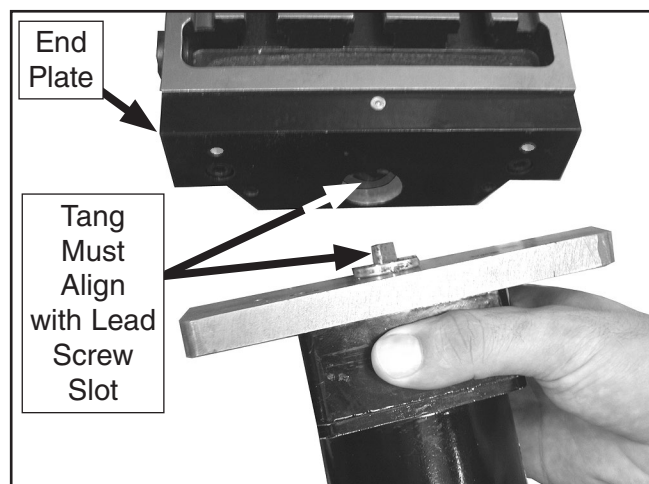

Figure 14. Motor installation.
19. Rotate the power feed drive tang so it aligns with the lead screw slot (**Figure 14**).